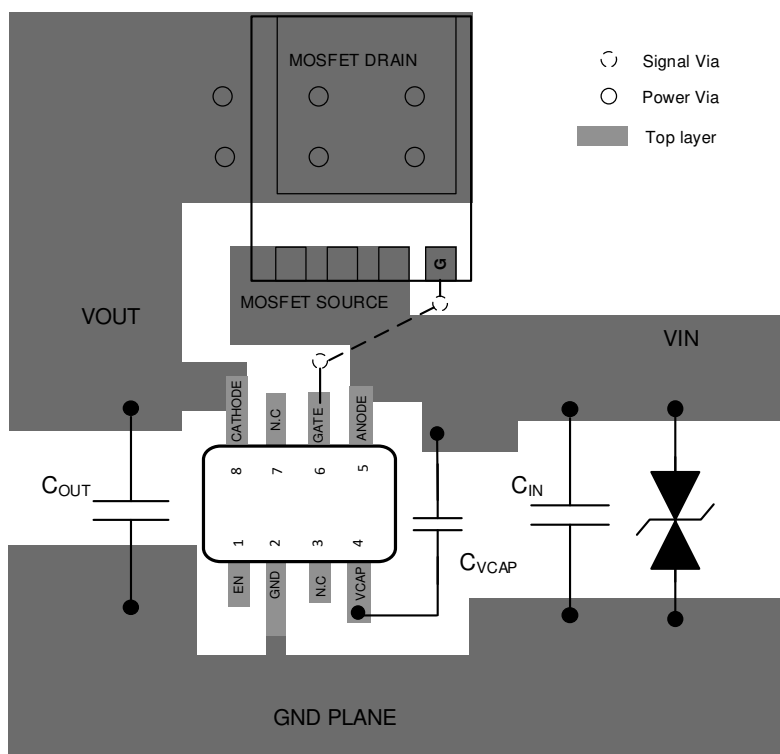

Figure 11-1. LM74700-EP DDF Package Layout Example
- Obtaining acceptable performance with alternate layout schemes is possible. However, the layout shown in Figure 11-1 is intended as a guideline.